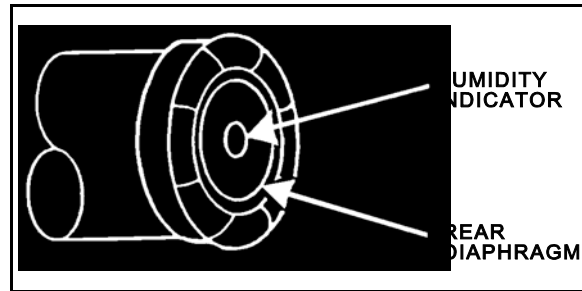

Figure 6. Humidity indicator.
- a. Check the humidity indicator. It should be blue (Figure 6).